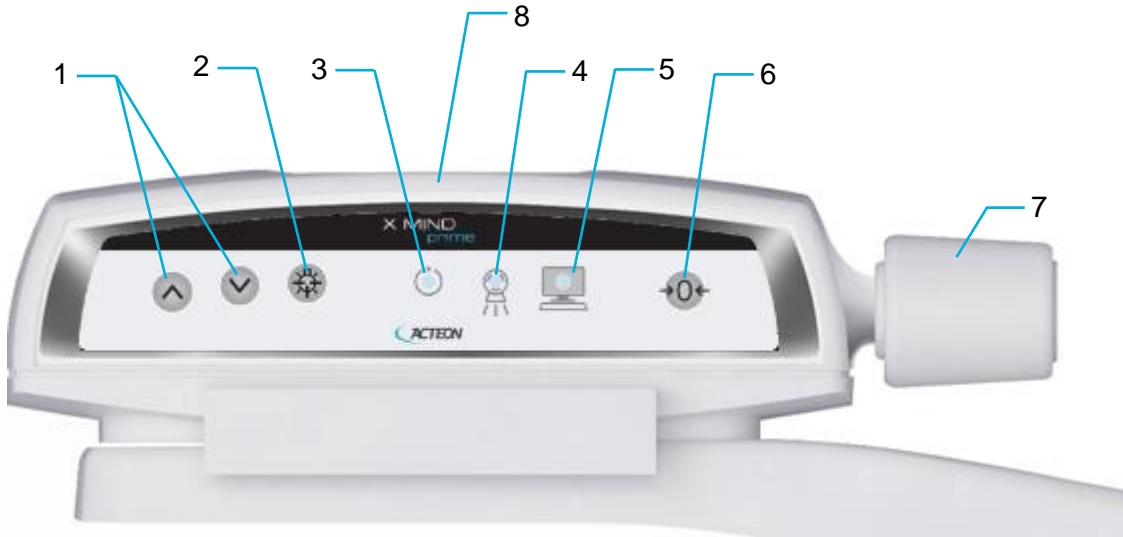

Figure 16 - Keyboard
2. Press the power switch located on the upper part of the equipment on the operator side to position "1". This will start the "CHECK" function, which is indicated by the LEDs lighting up. When the "CHECK" function is complete, the green LED (3 - Figure 16) on the equipment keyboard starts blinking.
4. Run the "GUI" on the PC and wait for the connection between the PC and equipment; this status is indicated by the blue LED on the equipment (5 - Figure 16) and on the GUI lighting up.
Figure 16 shows a general view of X-MIND prime 3D control Interface.
Ready for X-ray status is signalled by the green LED on the equipment (3 - Figure 16) and on the GUI lighting up.
X-MIND prime 3D assumes that the digital sensor is ready: if this is not the case, the blue light indicator of "Computer connection" status (5 - Figure 16) start blinking slowly. To reset the message on X-Mind Prime 3D, press "OK" on the GUI and follow the instruction provided (if on the equipment keyboard the green light indicator of "Machine Ready" status is blinking, press >O< to perform the axis reset).